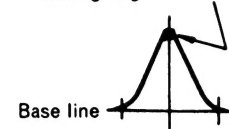

Fig. 9
1. Feed in a weak signal to TP102 from the genescope. Adjust T101 for maximum gain and the waveform indicated in Figure 9. If the center of the waveform cannot be lined up on the marker, adjust the right/left balance.